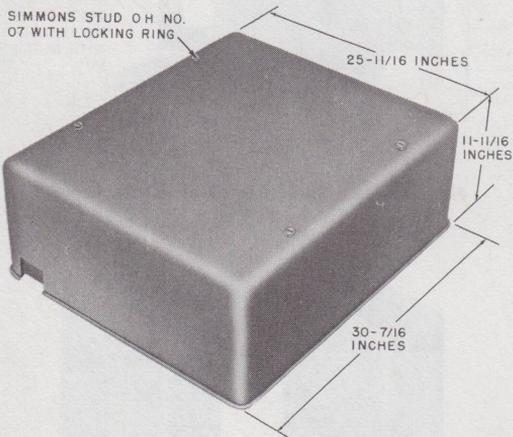

Fig. 29—Cover Per ED-69368-50, Group 2
4.04 The cover per ED-69368-50, Group 2 (Fig. 29) is designed to enclose one 26A apparatus mounting on an ED-69368-50, Group 1 or 3 backboard.